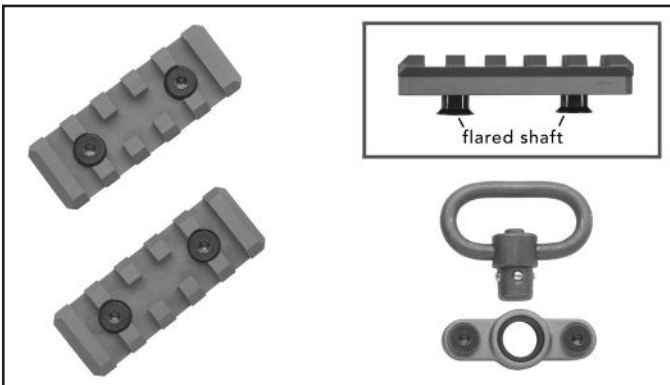
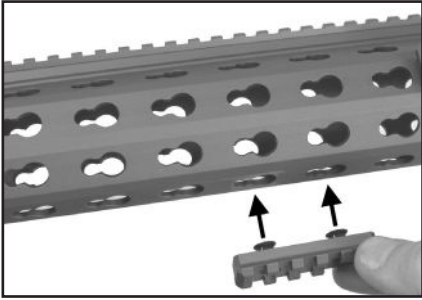

Fig. 76 – Rails segments and quick detachable sling hardware components
Fig. 77 – Position rail segment
1. Position the rail segment or component (Fig. 76) in the desired location on the slotted keyhole interface of the MRS and push in and slide to the rear, allowing the flared shaped shaft of the captive hex (Allen) screws to hold the segment or component in position (Fig 77 - 79).